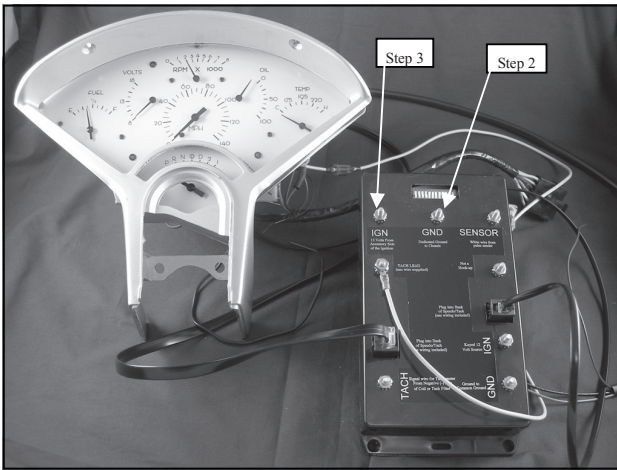

Figure 10
Step 2: Connect good dedicated ground on the chassis to the terminal post marked GND, located directly under the dip switches. (Make sure that the ground is independent from all other grounds.) (Figure 10)
Step 3: The next connection will be a 18-AWG wire from the accessory side of your key-start switch to the IGN terminal post. This is your power source. (Figure 10)